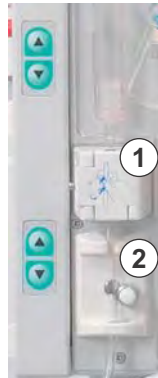

Fig. 4-11 Installing the venous line
12. Place venous line into safety air detector (SAD, Fig. 4-11, ①) and into tubing clamp (SAK, ②).